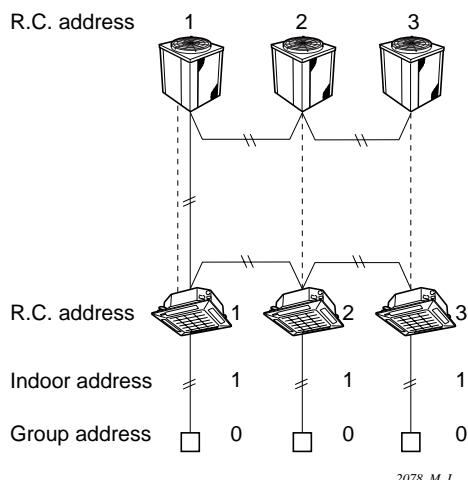

Fig. IV-11
(H) Set the indoor unit address (Ref. Fig. IV-11, IV-12)